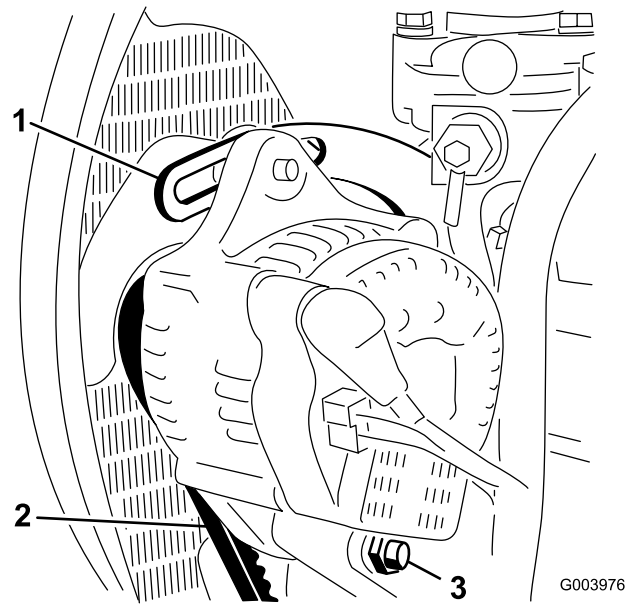

Figure 69
2. Check the tension of the alternator belt by pressing it (Figure 69) midway between the alternator and the crankshaft pulleys with 10 kg (22 lb) of force.
3. Loosen the bolt securing the brace to the engine (Figure 69), the bolt securing the alternator to the brace and the pivot bolt.